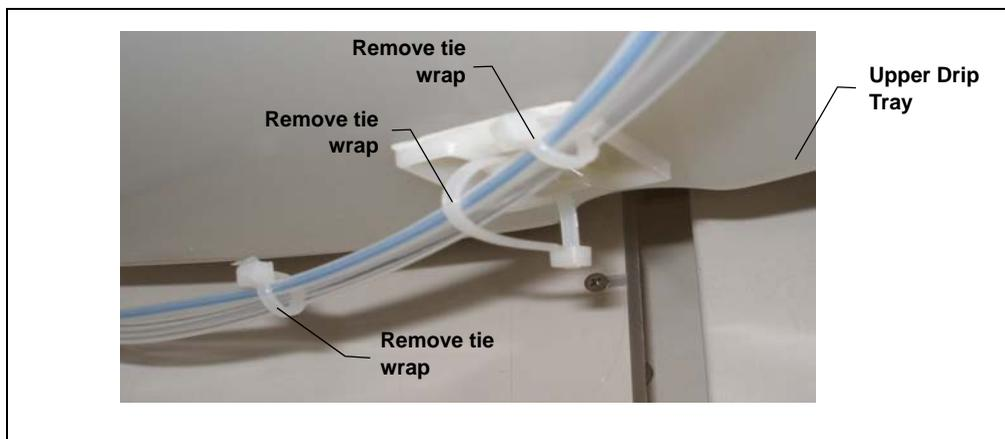

Figure 5-26. Removing Tie Wraps (Typical Installation Points)
- Note the three pieces of tubing routed underneath the upper drip tray (see Figure 5-26). Cut off the tie wraps that hold the tubing together. Then, cut off the tie wrap that attaches all of this tubing to the upper drip tray.
17. Install an additional tie wrap to attach the pieces of tubing to the upper drip tray. Leave some slack in this tie wrap (see Figure 5-26).